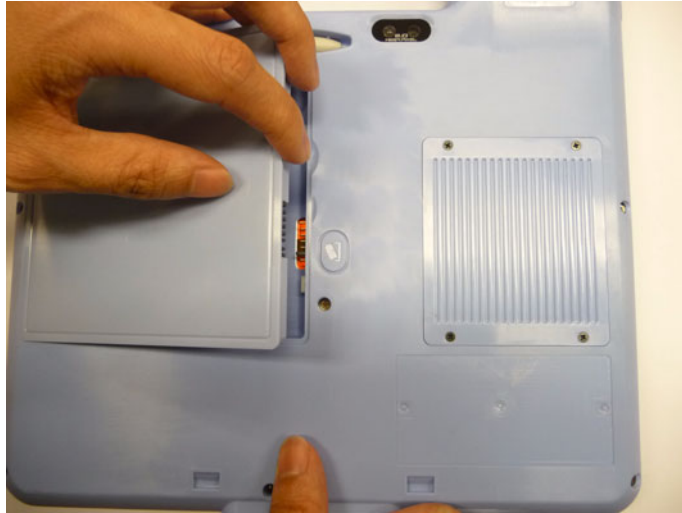

Figure 2.10 Remove Battery from the System
3. Remove the battery from the system, see Figure 2.10.